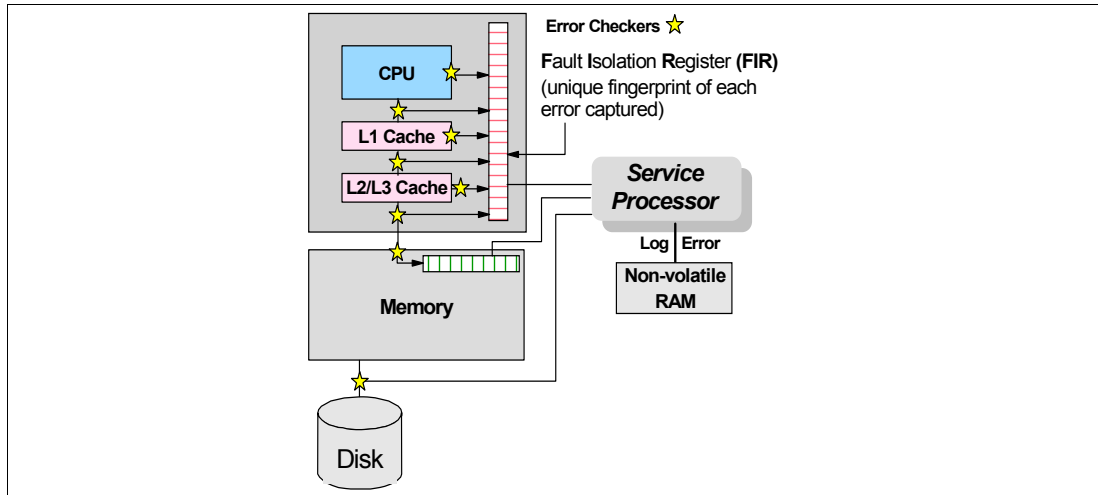

Figure 3-1 Schematic of Fault Isolation Register implementation
Any errors detected by the pervasive error checkers are captured into Fault Isolation Registers (FIRs), which can be interrogated by the service processor (SP). The SP in the p5-520 has the capability to access system components using special purpose service processor ports or by access to the error registers. Figure 3-1 on page 49 shows a schematic of a Fault Register Implementation.